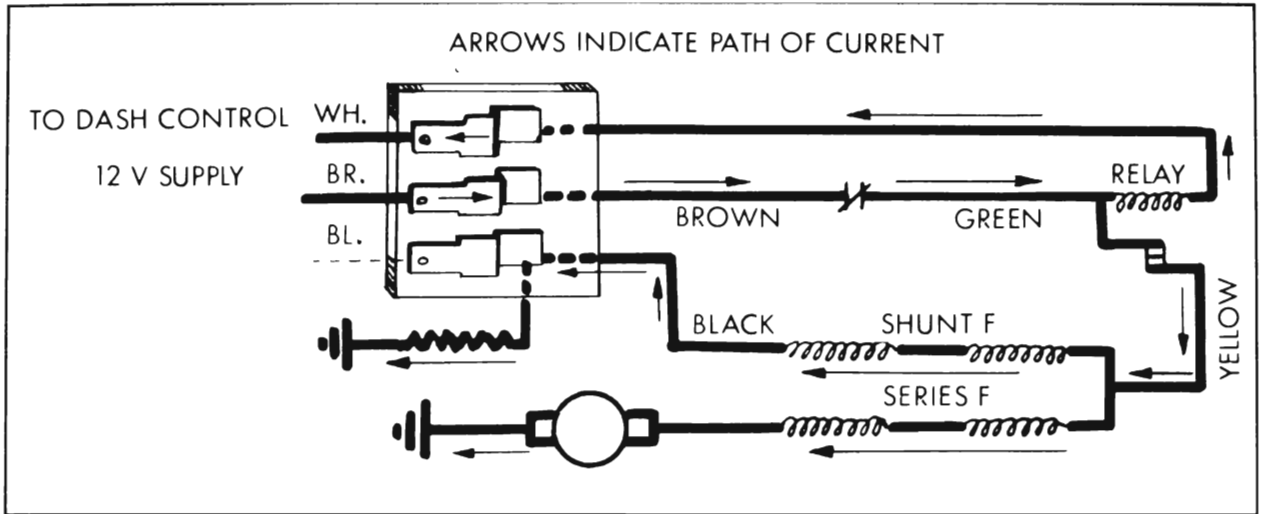

Figure 1-18—"Hi" Speed Operation—Wiring Circuit
b. "Hi" Speed-- When the switch is turned to "Hi" position, the motor shunt field circuit is no longer grounded due to the switch position. See Figure 1-18. The majority of current then passes through the motor series field circuit, to motor armature and to ground. Some current does pass through the shunt field windings and to ground through a resistor located on the wiper unit terminal board. However, less resistance is offered to current flow through the series field circuit. Therefore, the greater flow of current through the armature increases wiper motor speed.